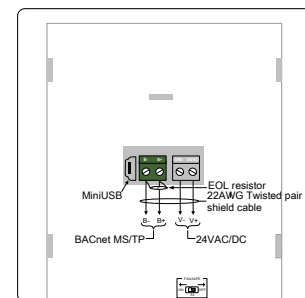

Fig. 3 Terminal Resistor
- To install NVT35U on a MS/TP network, user should follow RS- 485 networks general wiring rule, does not be T shape or star shape configuration. Add terminal resistor at both side. If NVT35U is located at the end of a network, the terminal resistor can be installed on its port (see Fig. 3).